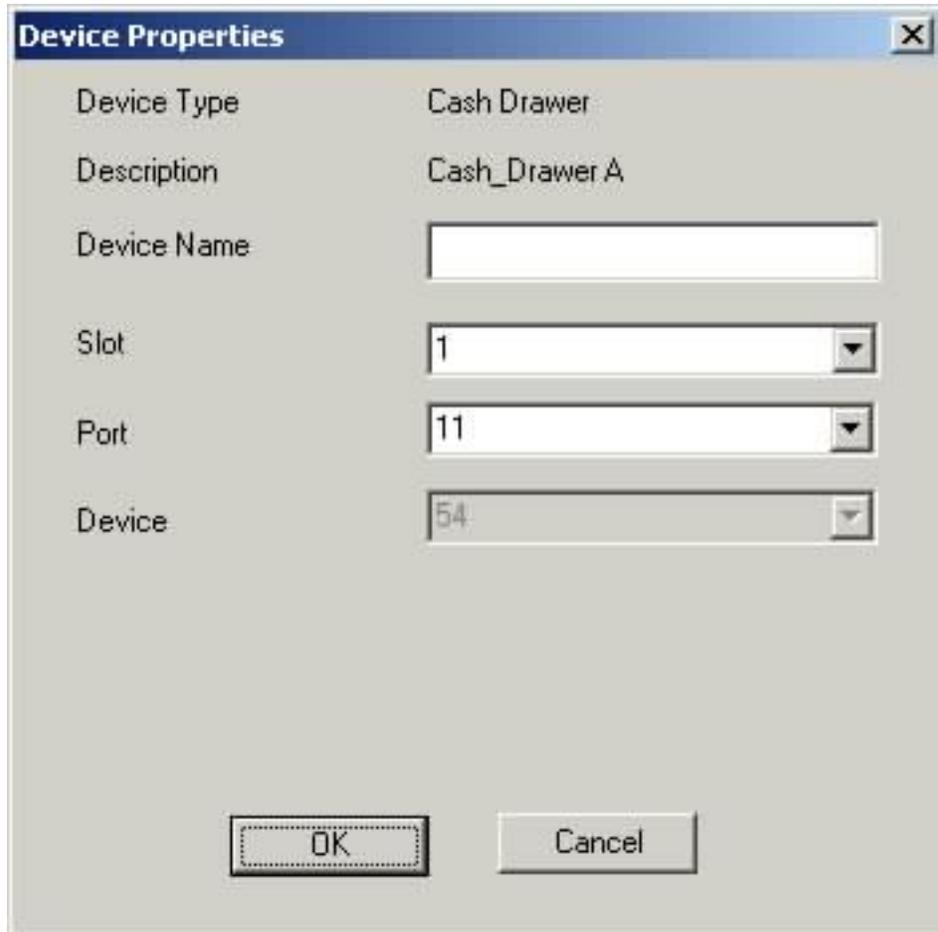

Figure 4. Device properties dialog (RS-485/USB)
2. Click the **Configure** button to display the configuration dialog for the selected device. The dialog differs depending on the POS Terminal type and the device type. Figure 4 on page 24 shows the configuration dialog for an RS-485 or USB device; Figure 5 on page 25 shows the configuration dialog for an EIA-232 device.
4. For USB, RS-485, and System devices, select the correct slot and port for the device (see Figure 4 on page 24). Slot can have the following values: